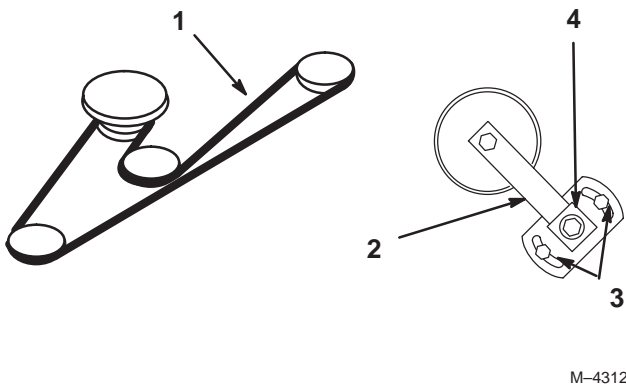

Figure 64
3. Loosen two nuts securing idler plate and move the idler arm to relieve belt tension on the idler pulley, then remove the worn deck belt (Fig. 64).
4. Install the new deck belt around the spindle pulleys, belt guide, the idler pulley, and in the lower groove of the center spindle pulley (Fig. 64).